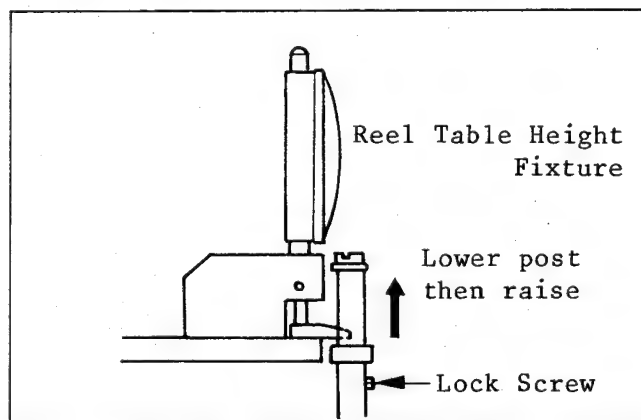

Fig. M28 Adj. of Tape Guide Post Height-(2)
3. Place the fixture on the Adjustment Plate and fit the scraper to the Adjustment Plate as shown in Fig. M28. (The scraper of the fixture should be fully lowered till it touches plate.)